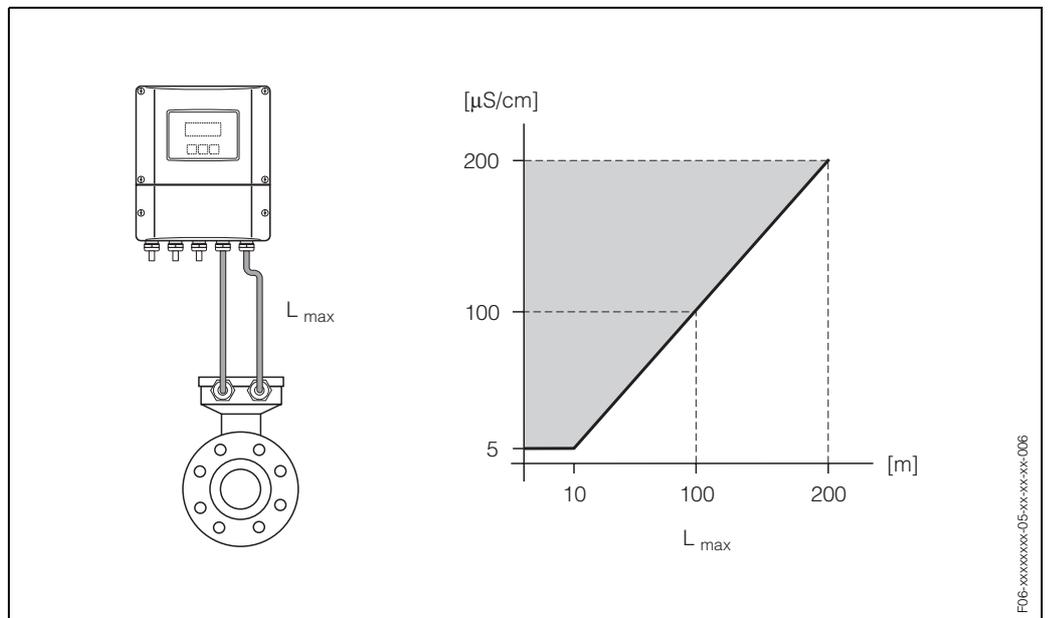

Fig. 16: Permissible cable length for the remote version
- The permissible cable length  $L_{max}$  depends on the fluid conductivity (Fig. 16). A minimum conductivity of 20  $\mu\text{S/cm}$  is required for measuring demineralized water.